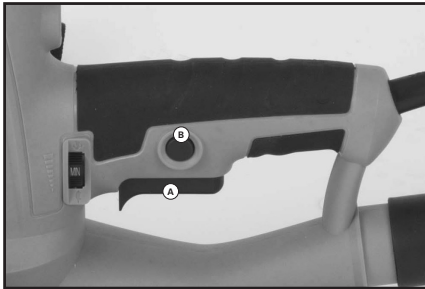

Fig. 5A +B
- Press the Trigger Switch. (Fig. 5A)